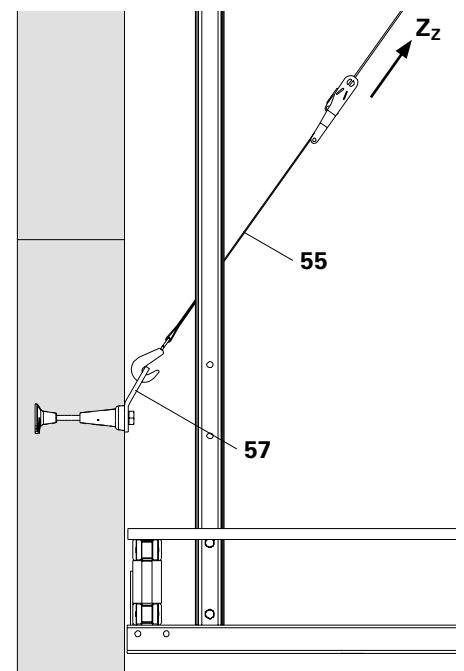

Fig. B1.33a
- If lateral stabilisation of the finishing platform is not required, then the Belt Connector Wall M24 (57) can also be used instead of the Bracing Shoe. (Fig. B1.33a)